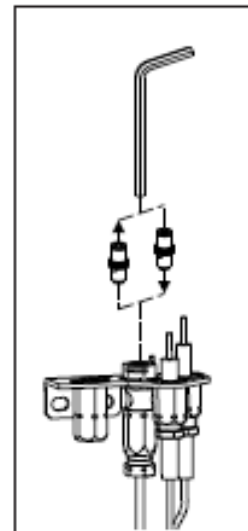

fig. 2
4. Insert a 5/32" or 4 mm Allen wrench into the hexagonal key-way of the injector (fig. 2), and rotate it counter-clockwise until it is free of the injector journal.